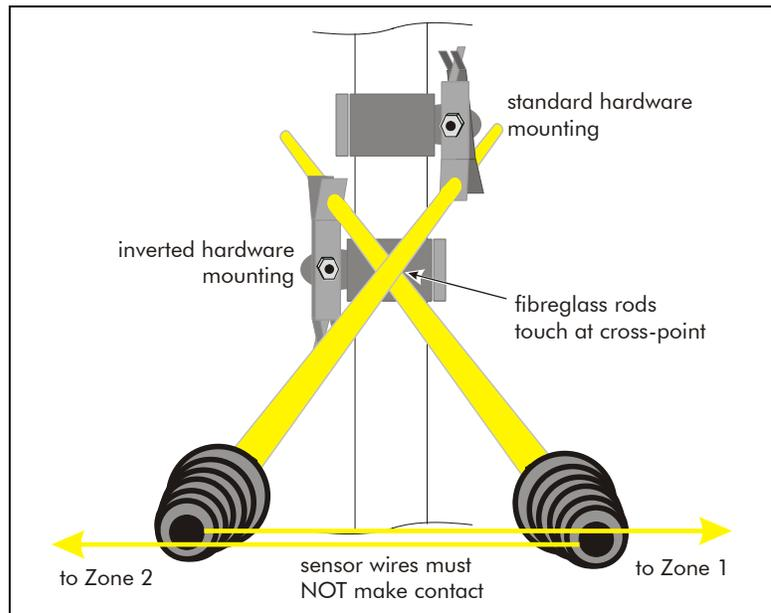

Figure e-16 Adjacent zone hardware (front view)
- The first set is installed according to the standard directions. The second set is inverted, with respect to the first (see Figure e-16).